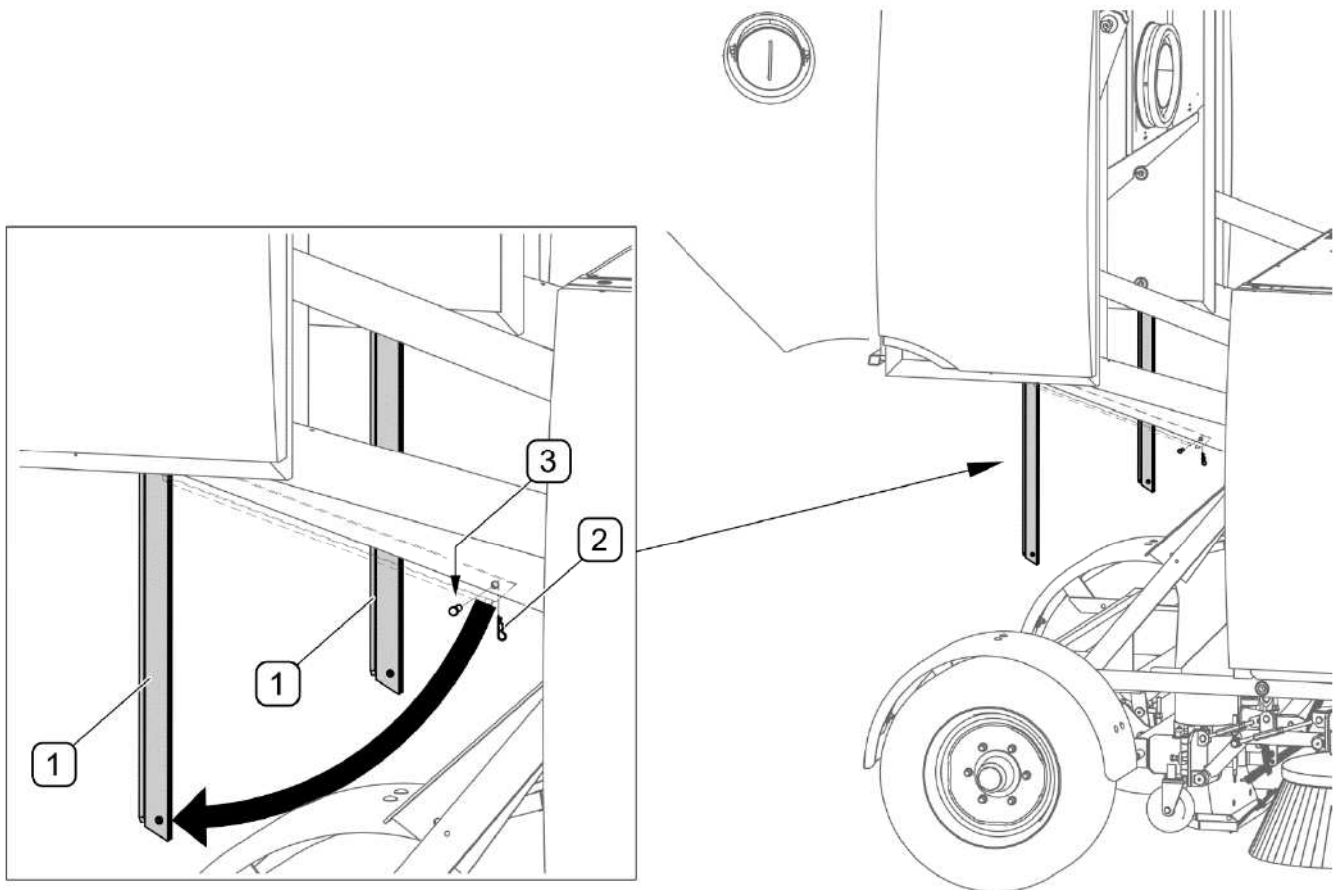

FIG. 5.3 Service supports
(1) - service supports; (2) - cotter pin; (3) - pin;
Service supports (1) are used to block the waste tank in raised position (FIG. 5.3).